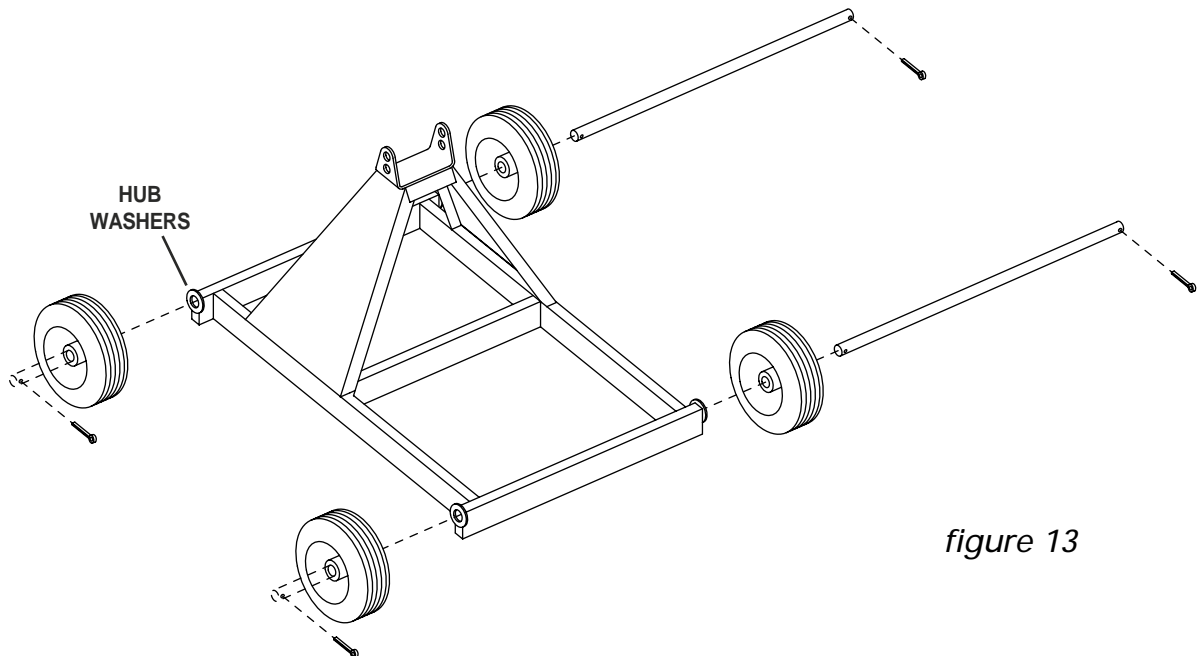

figure 13
1. Locate the mobile carriage frame and the 2 axles. Insert the axles through the hub washers on the mobile carriage frame. Slide the four pneumatic tires onto the axles and secure with four cotter pins. (See Figure 13.)